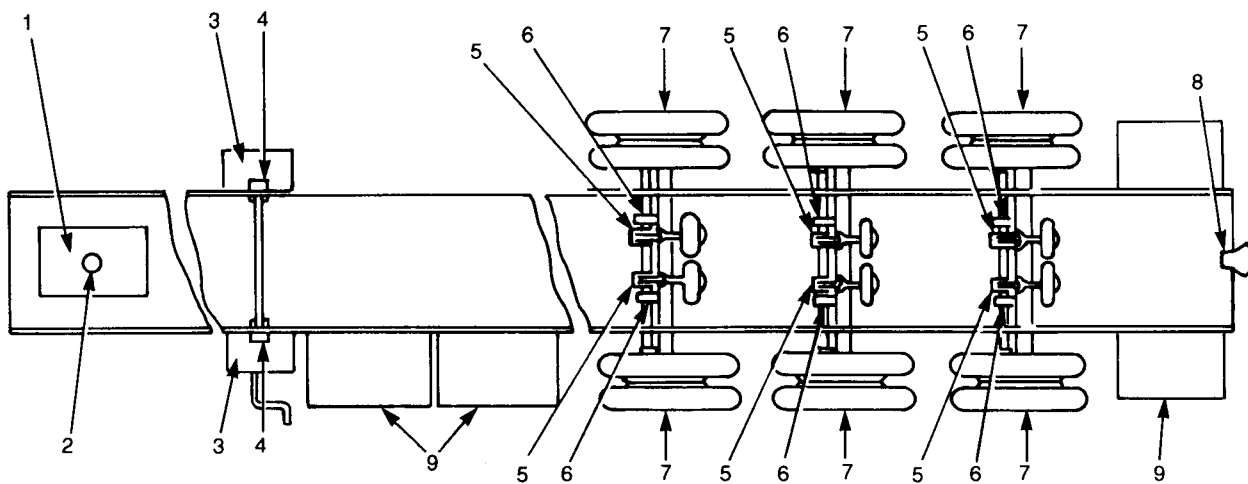

Figure 1 – Servicing Points for Semi-Trailer, 12.5 Metre, Cargo
- Table 1, Servicing Requirements for Semi-Trailer, 12.5 Metre, refers to Figure 1, Servicing Points for Semi-Trailer, 12.5 Metre.